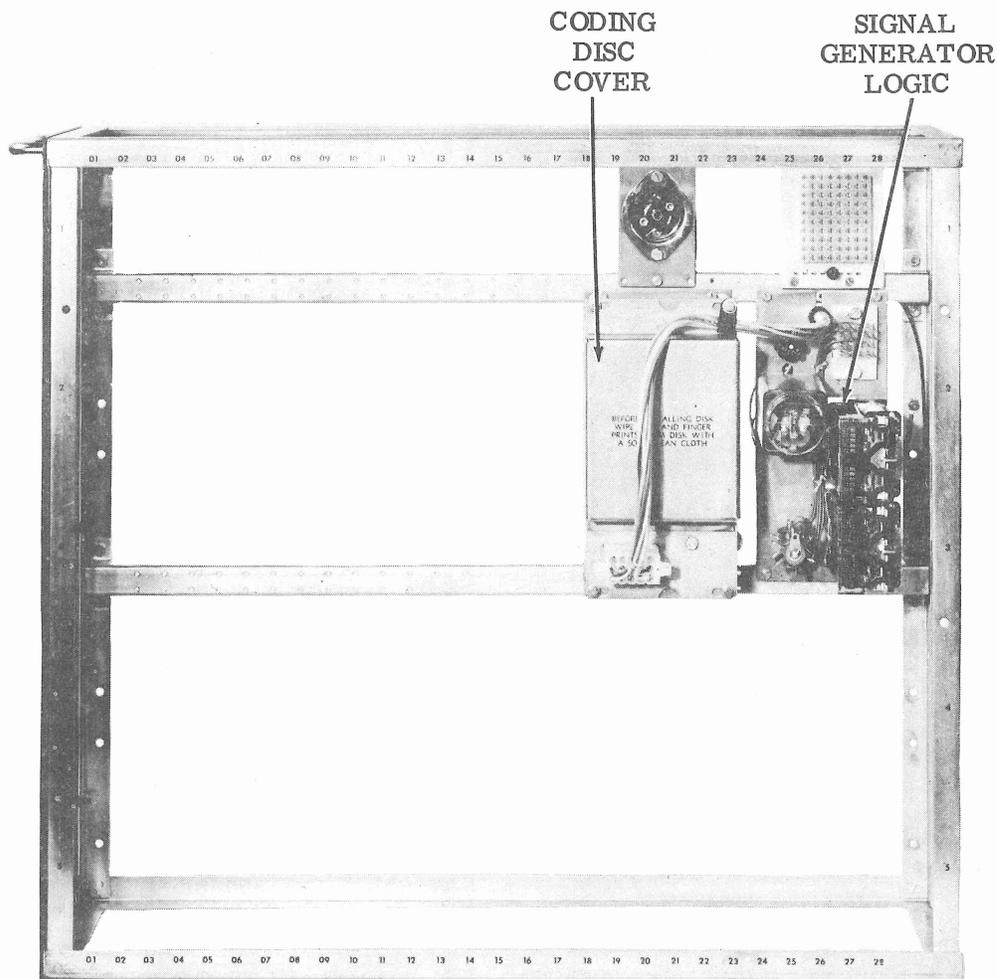

Figure 1 - Discrete Calling Generator (TP308512) — Right Side View
1.02 The discrete calling generator (Figures 1, 2, and 3) generates a discrete character necessary to start an unattended Tape Sender 4A that is equipped with the discrete calling recognizer (TP308513).
5.01 To code the coding disc, remove the two 6-40 screws holding the TP199577 cover to the TP199570 signal generator assembly (Figure 1).
5.08 Install the TP199577 signal generator cover (Figure 1).